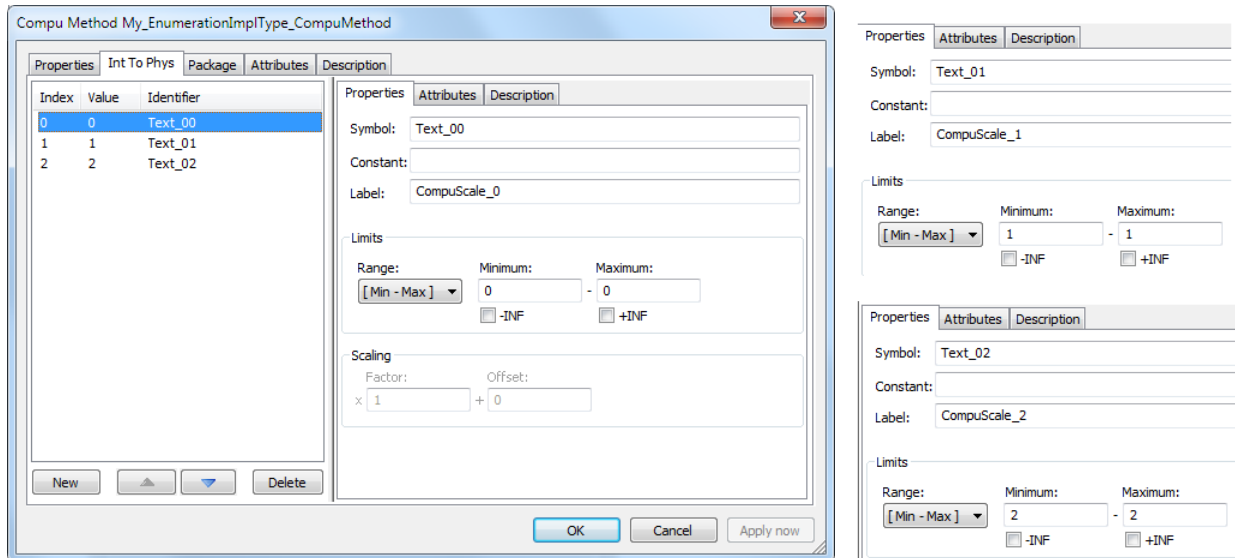

Figure 4-37 My_EnumerationImplType_CompuMethod text table
- ▶ This text table contains 3 values, Text_00 for value 0 (range [0;0]), Text_01 for value 1 (range [1;1]) and Text_02 for value 2 (range [2;2]) (see Figure 4-37).